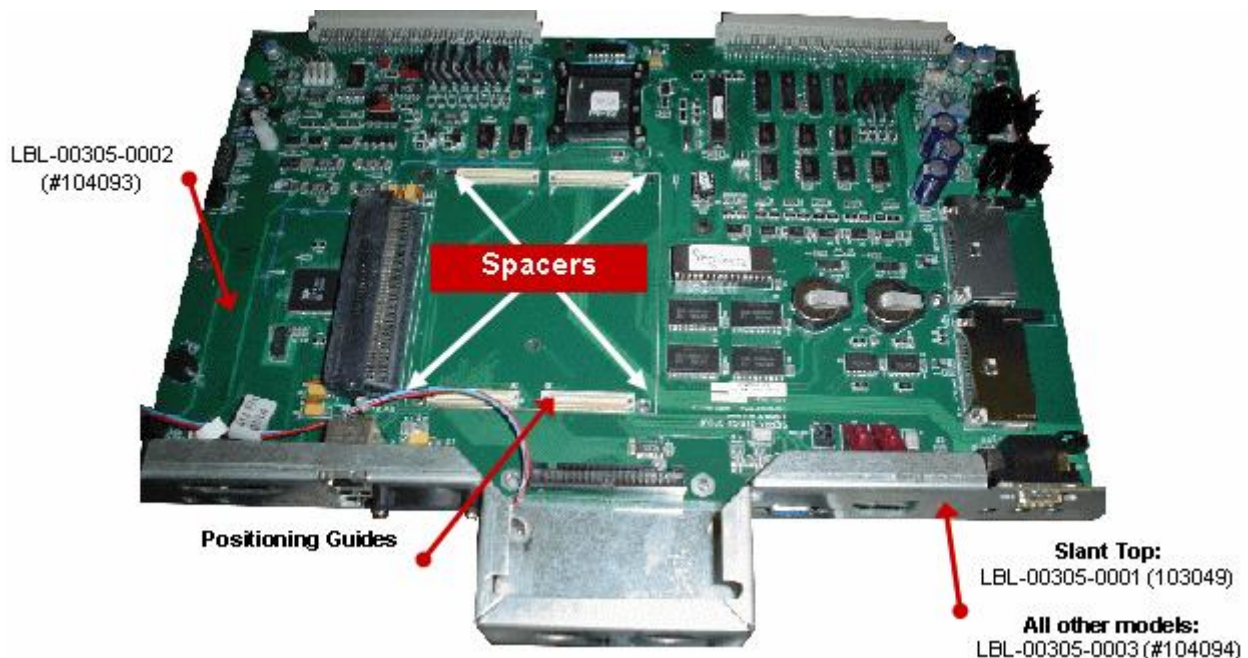

Figure 16: MPU Reassembly
Refer to Figure 16 throughout the next several steps to complete the reassembly.
- STEP 1:** Position spacers (4 total) on the motherboard as directed in Figure 16.